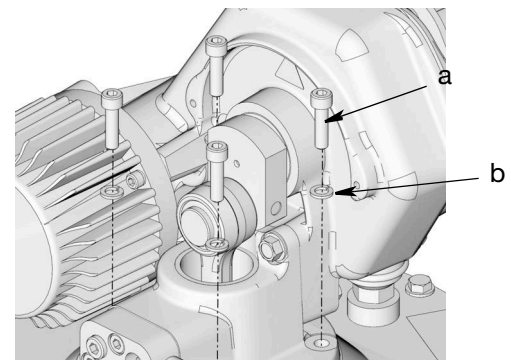

FIG. 50
26. Align the holes in the pump base with the holes in the reservoir cover. Securely fasten pump to the reservoir cover using the screws (a) and washers (b) (FIG. 50).